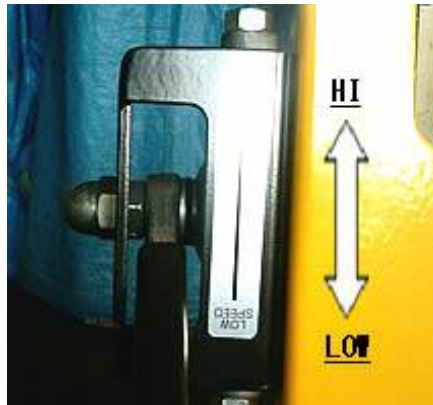

Figure 4-4
4. Position THROTTLE LEVER (1, Figure 4-4) away from the "LOW" position.
1. Shift the Throttle Lever (1, Figure 4-4) to "HIGH" speed position.
1. Shift the throttle lever (Figure 4-4) to "LOW" speed position.